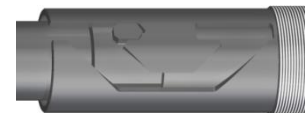

Fig. 3
I-1.2) Install J-body (5) onto mandrel (2). Position J-pin on mandrel (2) in upper landing position of J-slot in J-body (5)(Fig. 3).